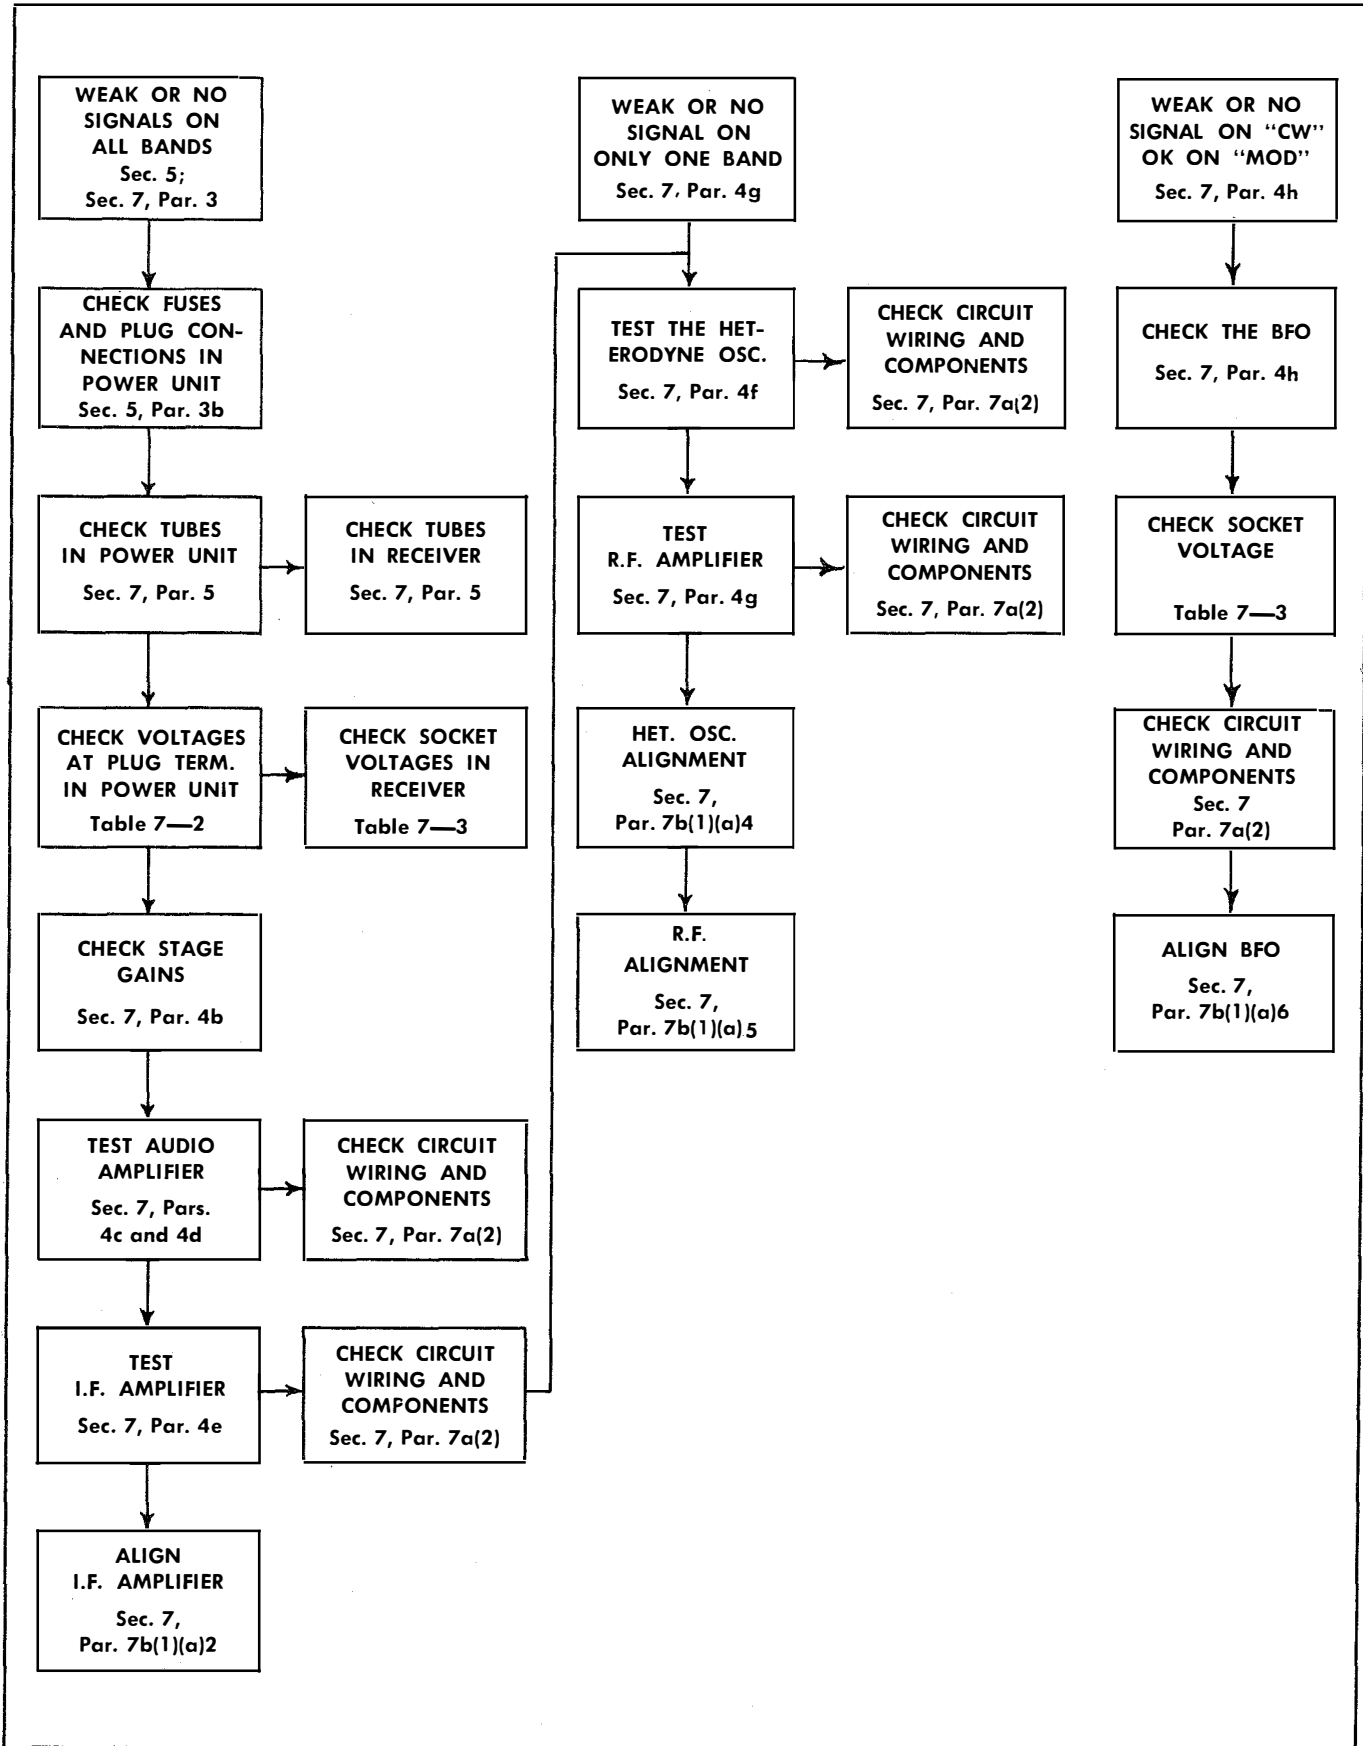

Figure 7-2. Stage by Stage Trouble Localization Diagram
(c) If the voltages measured do not approximate the correct values, both the receiver and power supply units should be given a thorough voltage and continuity check, and all defective components and tubes replaced. (See Tables 7-1, 7-2, and 7-4, and Figures 7-2, 7-3, 7-4, and 7-20, 7-21. If it is desired to check the power supply voltage independently of the Radio Receiver, substitute dummy loads in place of the receiver, as follows:
b. GENERAL.—If the preliminary checks and replacements fail to restore the equipment to operating condition, isolate the trouble to one or more stages, so that defective components can be quickly located and replaced. Various methods of localizing trouble can be used. (See Figure 7-2). Sometimes the trouble can be localized by noting the nature of the symptoms. If the receiver operates on all bands except one, the I.F. and the audio stages are functioning and it is only necessary to check the R.F. stage of the defective band. (Refer to this section, paragraph 4g). The method of localizing trouble by gain measurements described below, uses the Navy Model OE Series Receiver Analyzer, a 20,000 ohm per volt multimeter such as the AN/PSM-4 Series, or equivalent, an R.F. Signal Generator set AN/URM-25 series, or equivalent, modulated 30 percent at 1000 cycles, and an audio oscillator such as Audio Oscillator TS-382A/U or higher.
(1) GAIN MEASUREMENTS.—The stage gains chart given in Table 7-1 below will be referred to throughout this paragraph on trouble localization. The term "gain" as used here is defined as the ratio of the signal generator voltage taken at the output of the stage, to the voltage taken at the input of the stage, the output level remaining constant as specified in setting (f) below. Unless otherwise specified, when using the stage gains chart by itself or in conjunction with the test procedures which follow the chart, make the following adjustments: